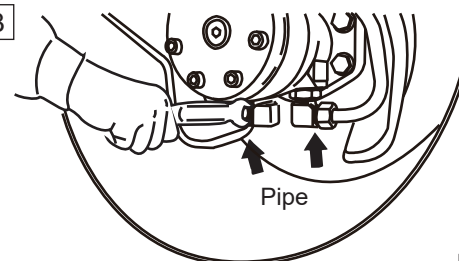

Fig. 10
- c. Assemble the pipe holders (39) to the frame. (M8, Tightening torque: 25.08lb-ft 34N•m) (Fig. 10)
- d. Assemble the pipe guards (41) to the each pipe holders (39) after checking parallelism of the oil pipes (37, 38). (M10, Tightening torque: 57.53lb-ft 78N•m) (Fig. 10)